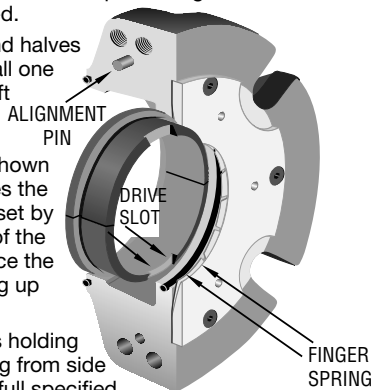

FIGURE 13
- Lubricate the o-rings inside the gland halves using the o-ring lube provided. Install one gland assembly half around the shaft and position it so that the spring finger nearest the gland split aligns with the primary ring drive slot, as shown in Figure 13 to the right. This ensures the primary ring and gland splits are offset by approximately 90° and the tail end of the primary ring rests on the o-ring. Place the top gland half on the shaft, matching up the alignment pins.